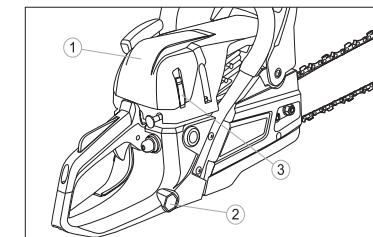

Fig. 24
1. Remove the air filter cover 1 (Fig. 24) by unfastening the latches 3. Use a screwdriver with a spark plug wrench 2.